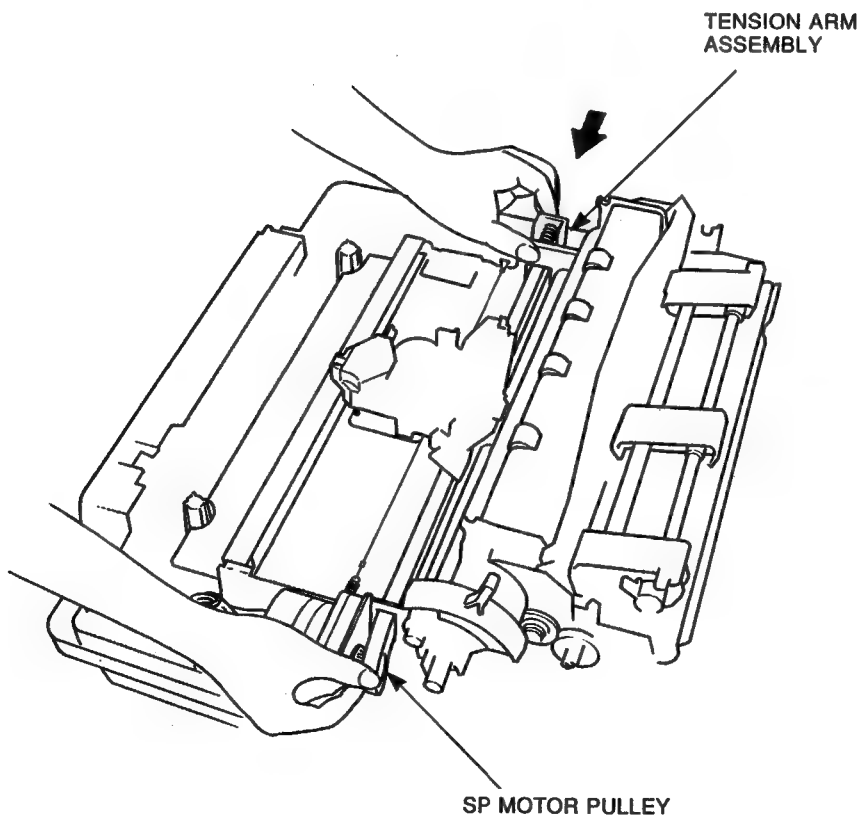

Figure 3-20 Timing Belt
5. Press the tension arm assembly to the left side frame and remove the timing belt from the SP motor pulley (see Figure 3-20).